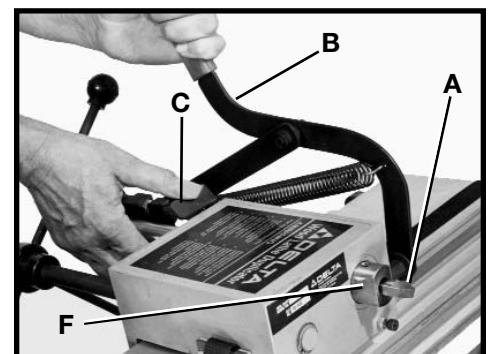

Fig. 68
The tool advancement arm (F) Fig. 68 automatically regulates the depth of cut of the cutting tool (A).
2. To increase the depth of cut, pull back on handle (B) Fig. 68 and push engagement lever (C) forward. Each stop on the engagement lever (C) will increase the depth of cut by 1/8" increments to one full inch. **IMPORTANT:** Always pull back on handle (B) before advancing tool engagement lever (C).